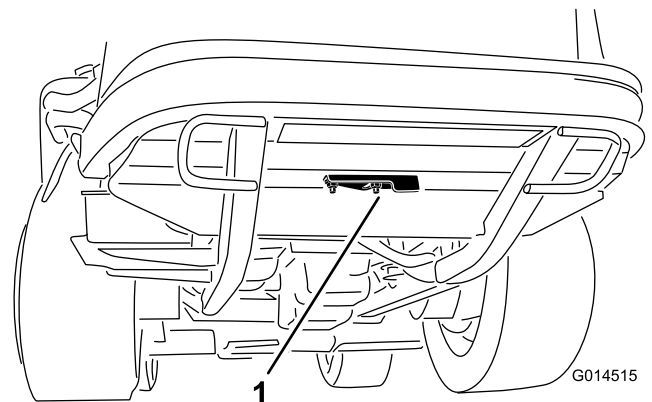

Figure 46
2. Loosen the flange nut securing the clean out cover to the underside of the rear frame (Figure 46). Rotate the cover to the side to expose the clean out hole in the frame.